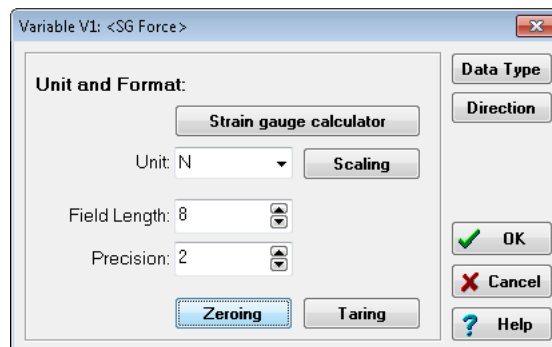

Fig. 5-3 Dialog for sensor scaling.
5. Click on **Direction** and specify **Input/Output** for the channel so that control is possible (Fig. 5-3).
6. Click on **Zero balance** or **Tare** to configure the relevant process (Fig. 5-3).